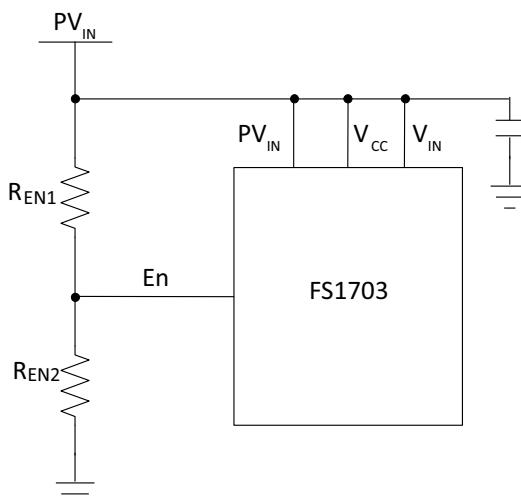

Figure 5 Single supply configuration: internal LDO regulator, adjustable PV_{IN_UVLO}
For single-rail operation, the V_{IN} pin of the FS1703 should be connected to the PV_{IN} pin and V_{CC} pin (Figure 5).
- It can be used to implement a precise input voltage UVLO. The input of the En pin is derived from the PV_{IN} voltage by a set of resistive dividers, R_{EN1} and R_{EN2} (Figure 5). Users can program the UVLO threshold voltage by selecting different ratios. This is a useful feature that stops the FS1703 regulating when PV_{IN} is lower than the desired voltage.